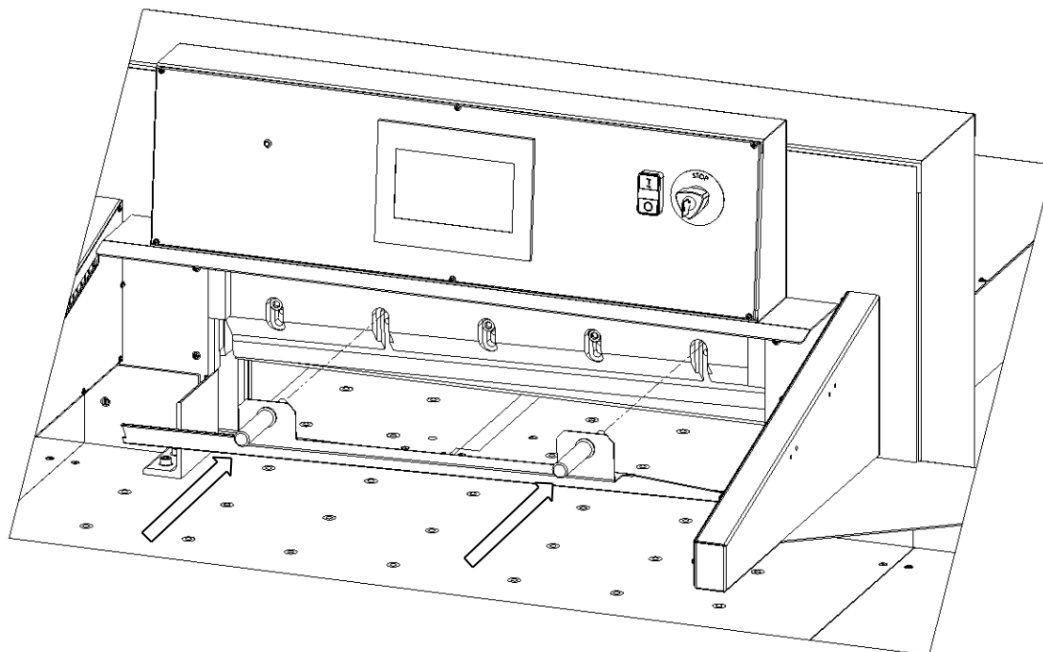

Figure. 25.
8.1.1.9. In place of the screws removed, screw in the blade change safety tool handle (1, fig. 25) so that it secures the knife to the cutter bar.